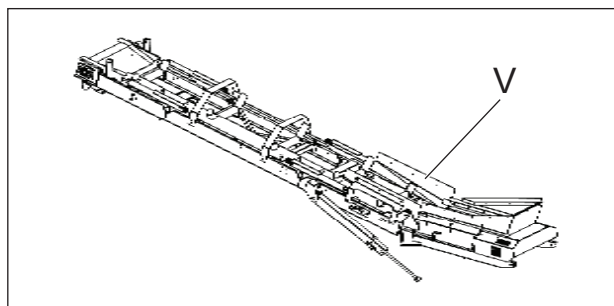

Figure 5.11 - Side Conveyor Skirting
3. Detach the side conveyor skirting (V) from the conveyor, Ref: Figure 5.11.